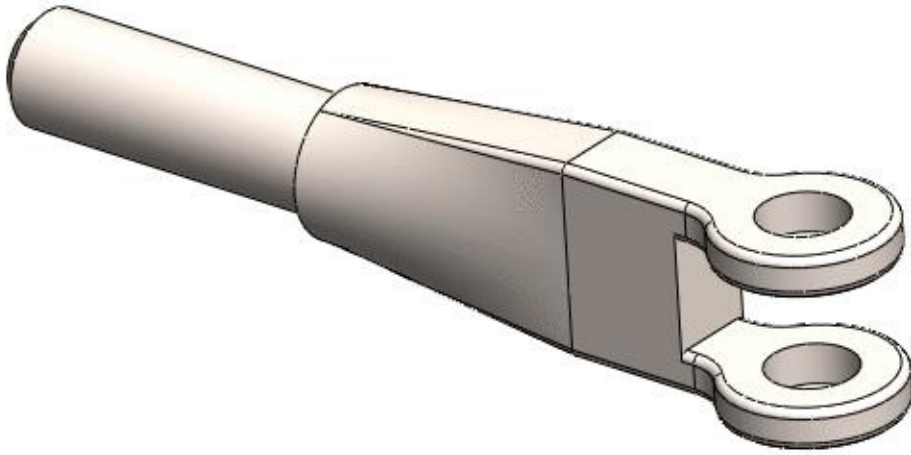

Figure-16. Model after applying material
- Click on the **Close** button from the dialog box to exit. The color of model will be changed; refer to Figure-16.